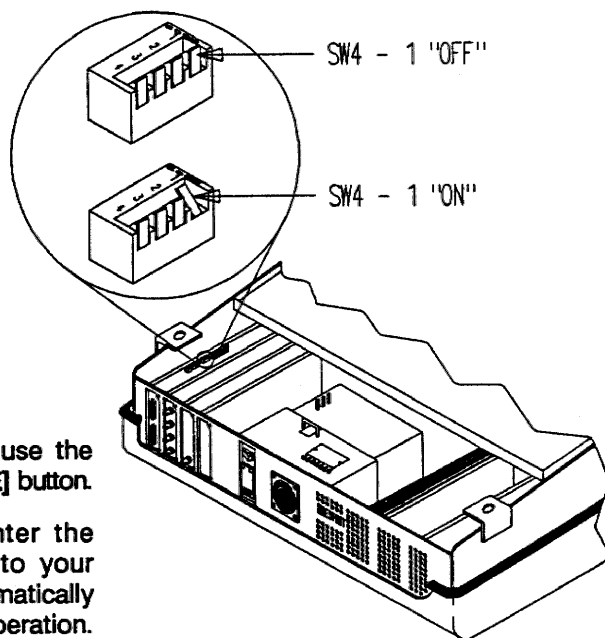

FIGURE S5-2.
- STEP 4. Locate DIP switch SW4 on the CPU module. Change SW4-1 to the "ON" position, replace the power cord and energize the system. Refer to Figure S5-2.